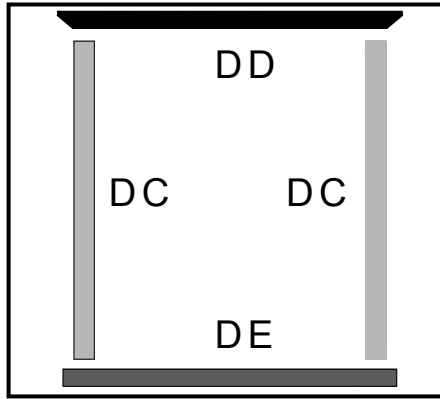

Fig B3
6. Layout parts **DC**, **DD** & **DE** as in fig B3.